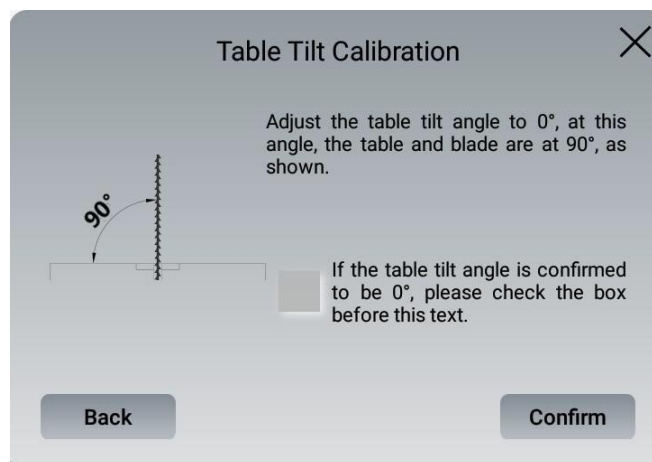

Fig. 7-12
1. Tap the "ZERO" button (see Fig. 7-3a) to enter the table angle calibration page (see Fig. 7-12).
3. Check the confirmation box in the interface shown in Fig. 7-12, then tap "Confirm" to save the calibration.